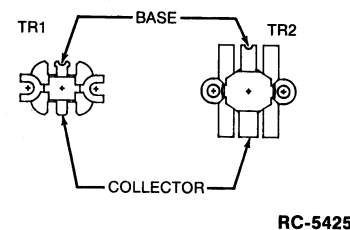

Figure 2 - PA Transistor Lead Identification
4. Remove all excess solder from the board, and clean the holes to allow the new transistor to be positioned properly and the capacitors to fit into proper locations. Refer to Figure 2 and trim leads of TR1, 2.